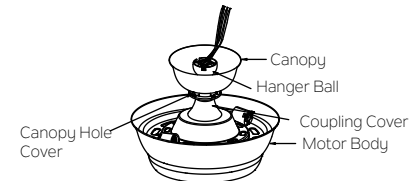

Fig. 8
Step 4. Slip the coupling cover, canopy hole cover and canopy onto the downrod. Carefully reinstall the hanger ball onto the downrod. Make sure the cross pin is in the correct position and the set screw is tight and the wires are not twisted. (Fig. 8)